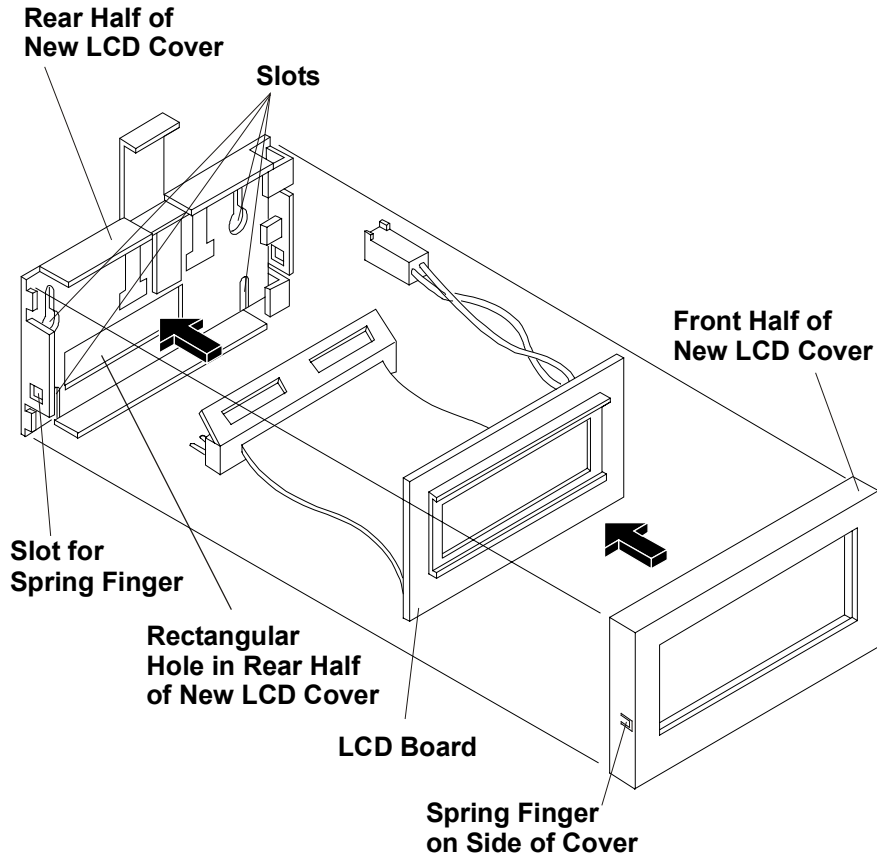

Figure 2-12. Assembling the New LCD Assembly
1. Orient the LCD board to the rear half of the new LCD cover, as shown in Figure 2-12. The spring finger on the side of the front half of the LCD cover must be in the lower half of the cover, as shown. That spring finger and one on the far side of the cover will engage slots in the rear half of the LCD cover.
2. Thread the LCD power cord and ribbon cable through the rectangular hole in the rear half of the new LCD cover, as shown in Figure 2-12.
4. Orient the front half of the new LCD cover, as shown in Figure 2-12. Ensure that the front of the LCD is parallel to the front of the LCD cover.